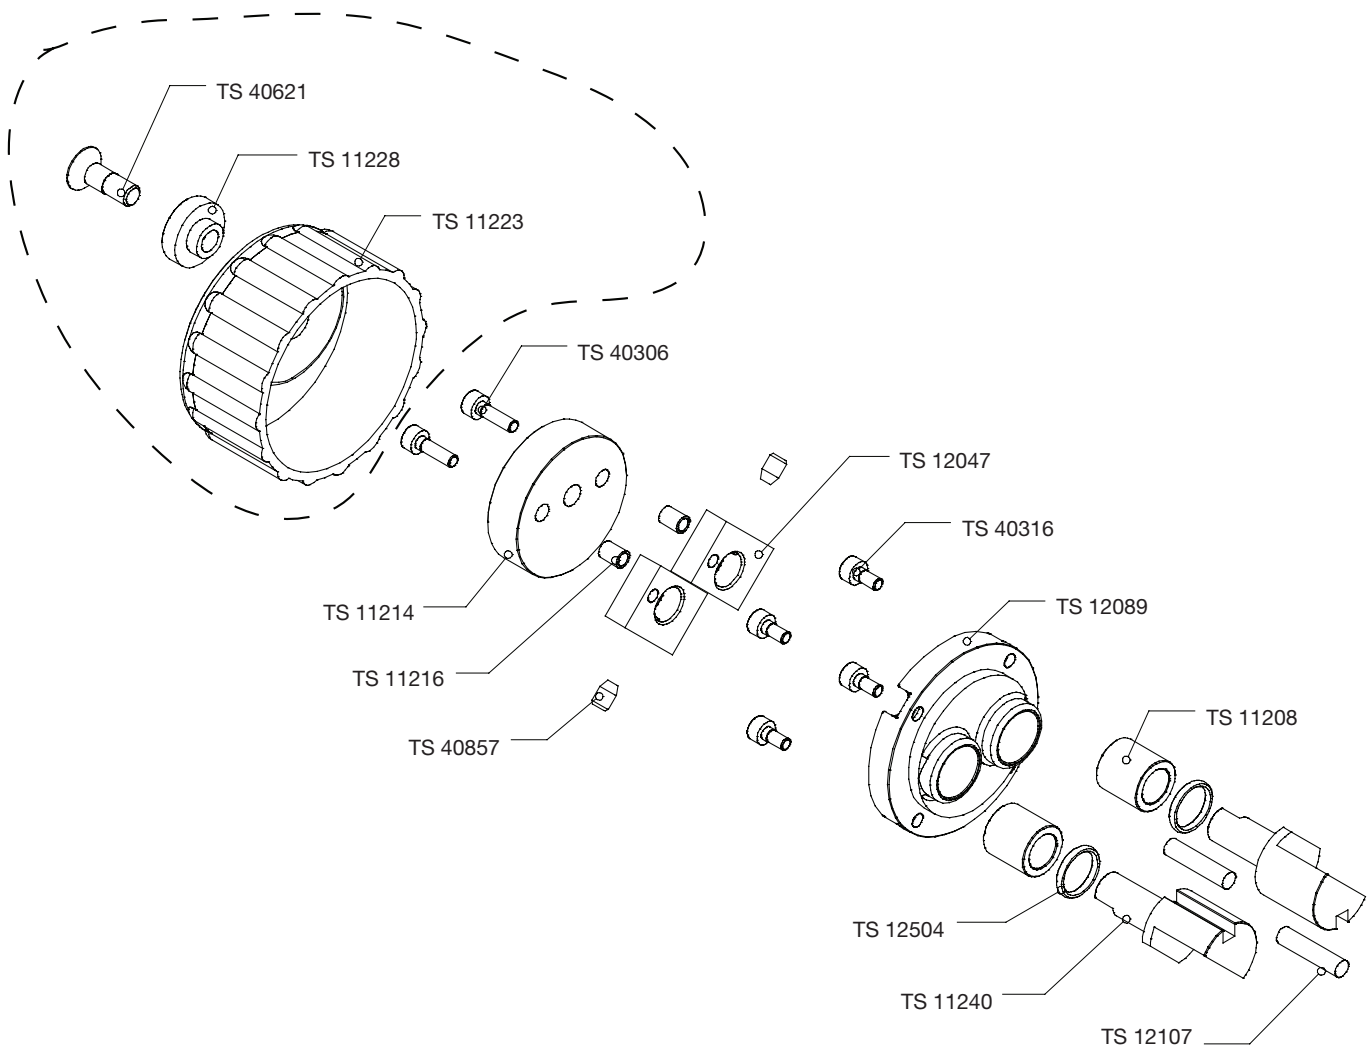

Figure 13-8: tape cleaner assembly TS 10205, details
- Figure 13-8: tape cleaner assembly TS 10205, details